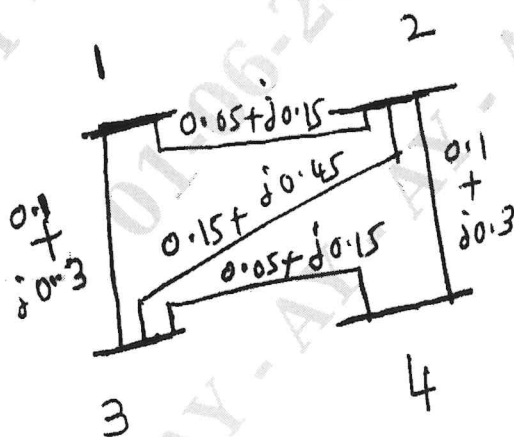

Fig Q4(b)
- b. For a four bus power system network shown below in Fig Q4(b), the generators are connected at all four buses, while loads are connected at buses 2 and 3. The real and reactive powers are listed below in Table Q4(b). Assuming a flat voltage start computing the unknown variable in all the buses other than the slack at the end of the first iteration. Take acceleration factor as 1.4.